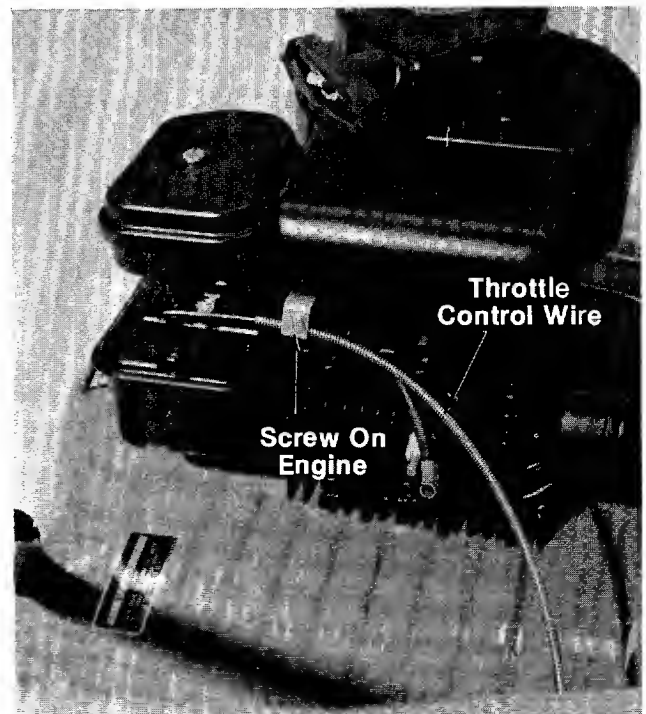

FIGURE 14.
1. Loosen, but do not remove, screw securing throttle control wire assembly at engine. See figure 14.